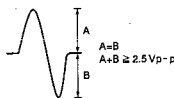

Figure 8
3. While watching the oscilloscope screen, press the PROGRAM key and observe the waveform in Figure 8 for a moment. Verify that the amplitude is at least 2.5 Vp-p and that the positive and negative amplitude are about equal. Since the waveform is only output for a moment when the PROGRAM key is pressed, press this key over and over until you have checked the waveform.